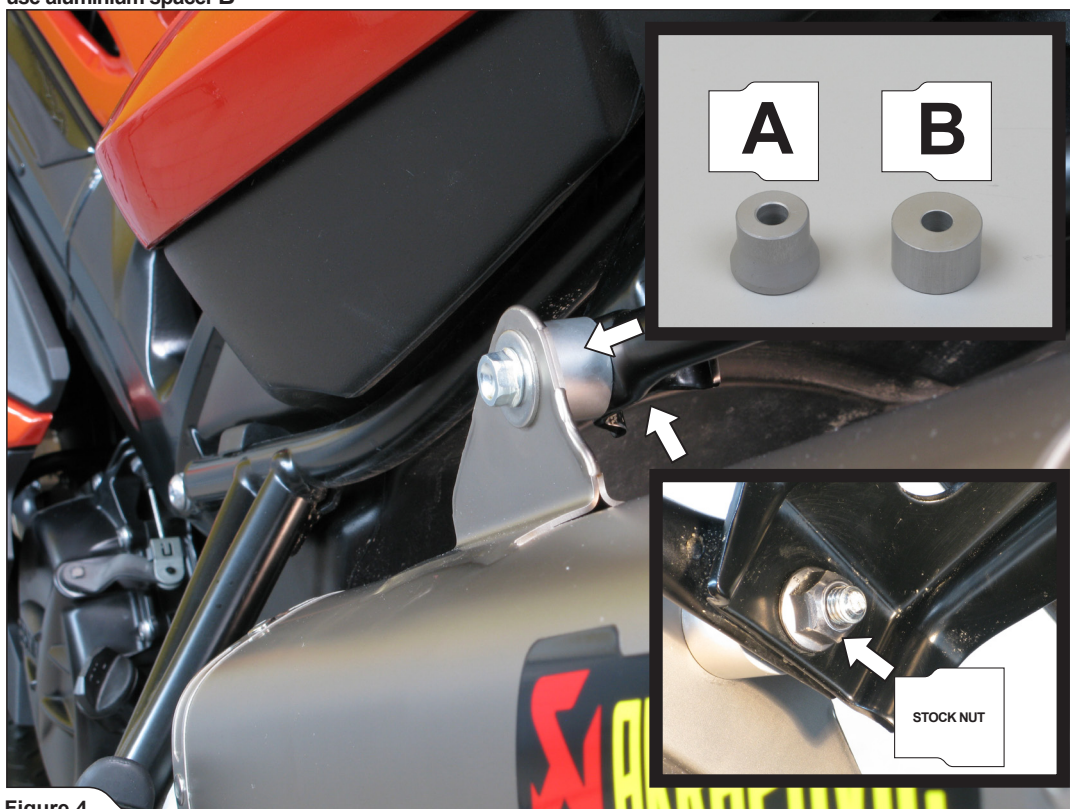

Figure 4
2. Slide the muffler onto the stock collector and **hand** tighten the muffler's bracket onto the sub frame, using bolt, washer and aluminium spacer from Akrapovič installation kit and stock nut (Figure 4).